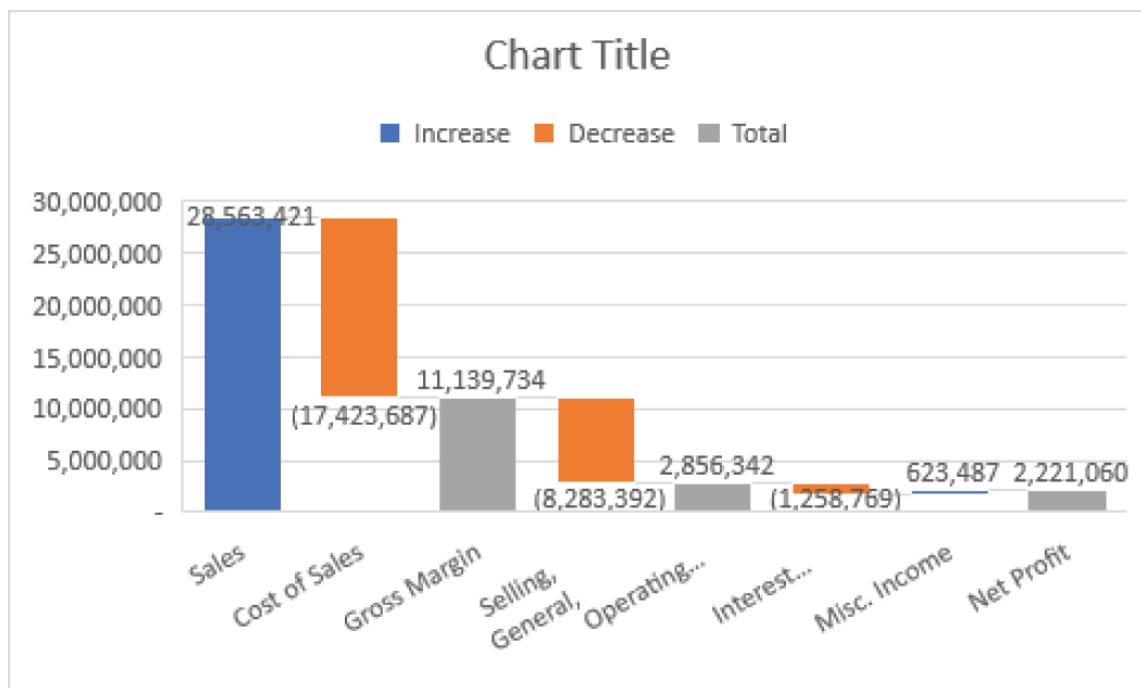

Figure 8.37: The waterfall chart with totals set
6. Check the Set As Total check box for the Operating Profit and Net Profit data points. Once you have a single data point selected, you can select another data point and you don't have to select the whole series first. Figure 8.37 shows the chart at this stage.